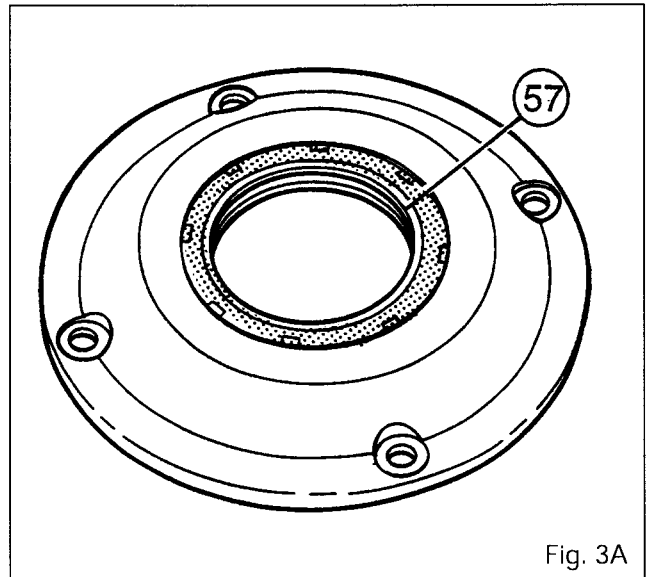

Fig. 3A
2. Place the protector Nr. 3378052M1 over the input shaft (7) (§F). Remove the screws (54). Remove the case (9) and the O-ring (1).
3. Extract the oil seal (57) (Fig. 3A).